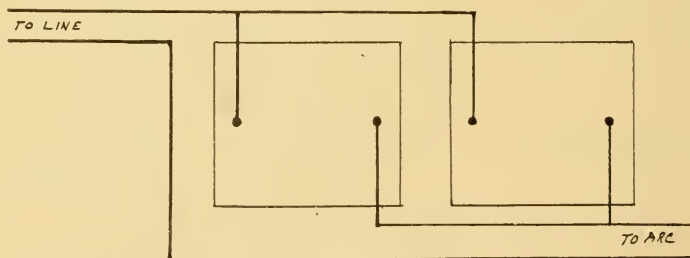

FIGURE 7
(77) If one wire of a circuit is cut and one end connected to the positives and the other to the negatives of two or more cells or dynamos as per Fig. 7, the circuit formed by the wires will have a voltage charge equal only to that of one of the cells or dynamos, but the full amperage capacity of all cells or dynamos thus connected will be available. This is a parallel or multiple connection, the two terms having exactly the same meaning. Series connection increases pressure. Parallel connection increases amperage. Any number of cells (or dynamos) of equal voltage and other characteristics may be connected either way. Each unit connected in series